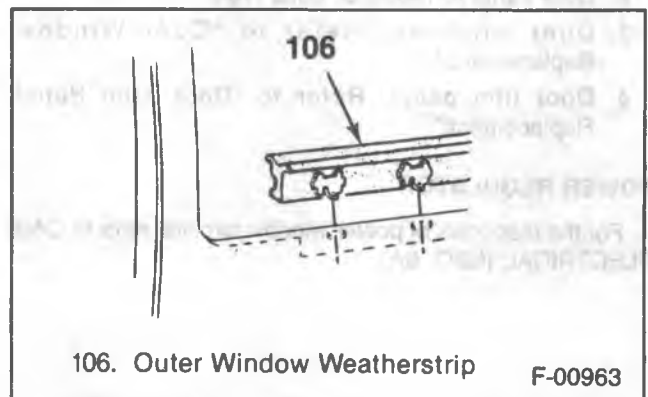

Figure 32 — Outer Window Weatherstrip
- ↔ Remove or Disconnect (Figure 32)**
- ↔ Install or Connect (Figure 32)**